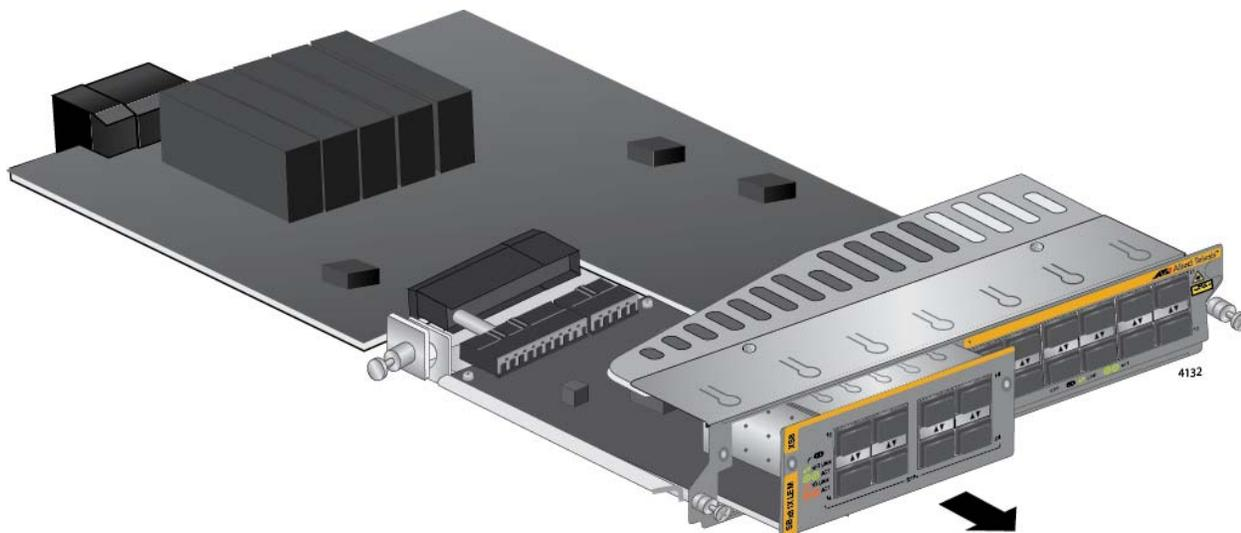

Figure 164. Sliding the Expansion Module from the AT-SBx81XLEM Line Card
6. Slide the expansion module from the line card. Refer to Figure 164 on page 258.